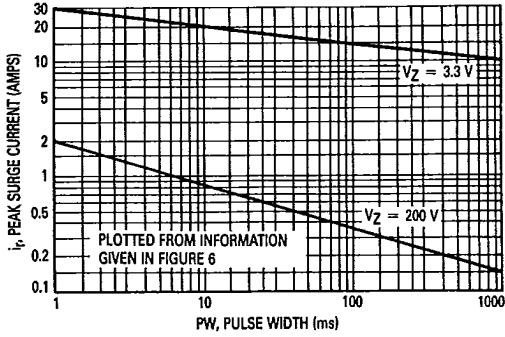
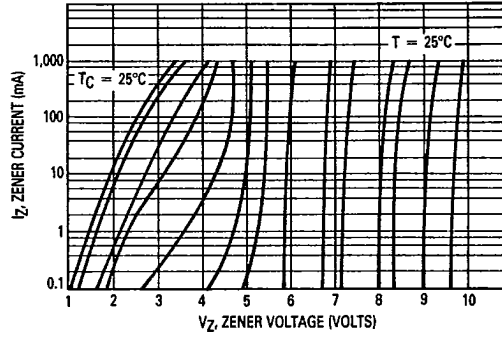

Figure 7. Peak Surge Current versus Pulse Width (See Note 3)
Figure 8. Zener Voltage versus Zener Current V_Z = 3.3 thru 10 Volts
- (1) TOLERANCE AND VOLTAGE DESIGNATION — The JEDEC type numbers shown indicate a tolerance of ±10% with guaranteed limits on only V_Z, I_R, I_F, and V_F as shown in the electrical characteristics table. Units with guaranteed limits on all seven parameters are indicated by suffix "A" for ±10% tolerance and suffix "B" for ±5%, C for ±2% and D for ±1%.
- (2) ZENER VOLTAGE (V_Z) AND IMPEDANCE (Z_{ZT} & Z_{ZK}) — Test conditions for Zener voltage and impedance are as follows: I_Z is applied 40 ± 10 ms prior to reading. Mounting contacts are located 3/8" to 1/2" from the inside edge of mounting clips to the body of the diode. (T_A = 25°C ± 2°C).
- (3) SURGE CURRENT (I_S) — Surge current is specified as the maximum allowable peak, non-recurrent square-wave current with a pulse width, PW, of 8.3 ms. The data given in Figure 8 may be used to find the maximum surge current for a square wave of any pulse width between 1 ms and 1000 ms by plotting the applicable points on logarithmic paper. Examples of this, using the 3.3 V and 200 V zeners, are shown in Figure 7. Mounting contact located as specified in Note 3. (T_A = 25°C ± 2°C).
- (4) VOLTAGE REGULATION (ΔV_Z) — Test conditions for voltage regulation are as follows: V_Z measurements are made at 10% and then at 50% of the I_Z max value listed in the electrical characteristics table. The test currents are the same for the 5% and 10% tolerance devices. The test current time duration for each V_Z measurement is 40 ± 10 ms. (T_A = 25°C ± 2°C). Mounting contact located as specified in Note 2.
- (5) MAXIMUM REGULATOR CURRENT (I_{ZM}) — The maximum current shown is based on the maximum voltage of a 5% type unit, therefore, it applies only to the B-suffix device. The actual I_{ZM} for any device may not exceed the value of 5 watts divided by the actual V_Z of the device. T_L = 75°C at 3/8" maximum from the device body.
ZENER VOLTAGE versus ZENER CURRENT (Figures 8, 9 and 10)